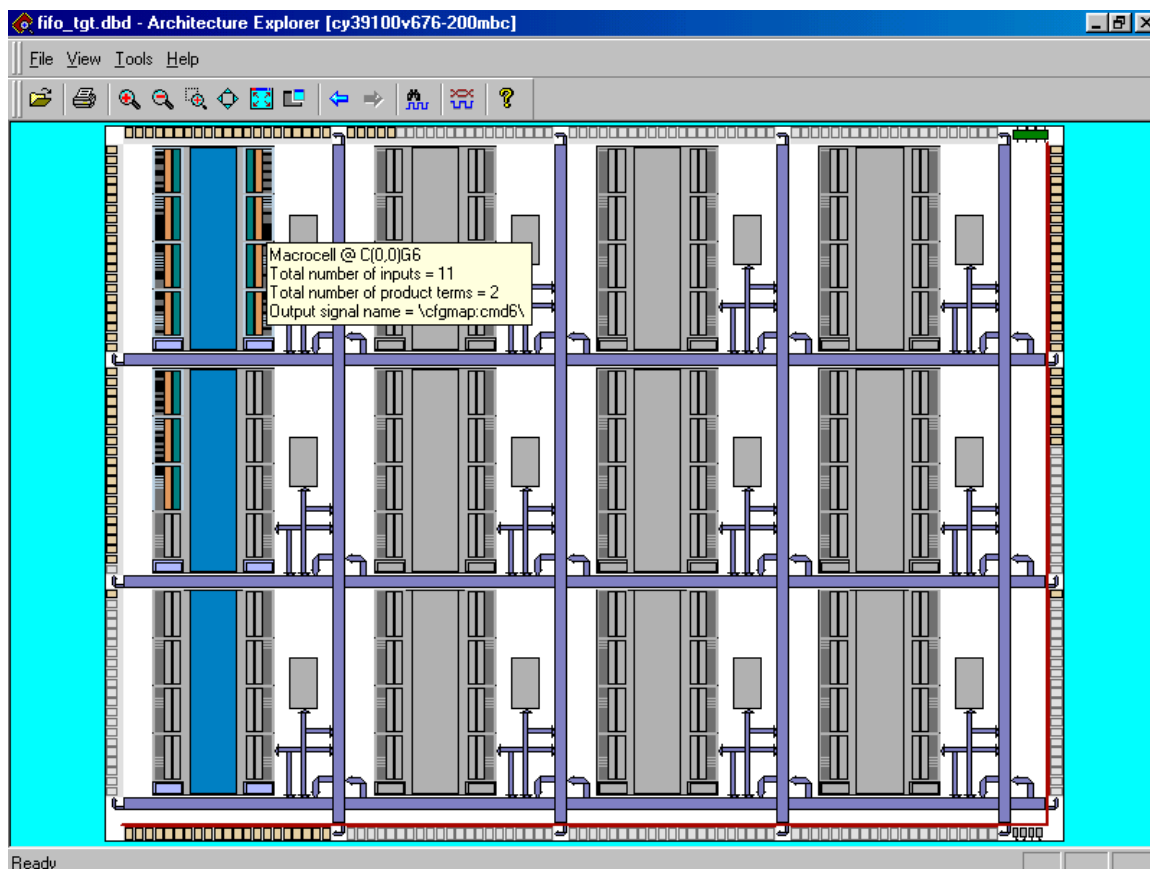

Figure 1. CY39100 in the Warp Tool's Architecture Explorer
This brings up a map of the device that was targeted for the design. This map shows utilized resources in color and unused resources in gray. The Delta39K CPLDs use a product-term-based architecture for its basic building blocks. Figure 1 shows a CY39100. This device has approximately 100,000 FPGA-equivalent gates. It implements this using the twelve clusters shown on this map. Each cluster contains eight Logic Blocks (LB), and each LB contains 16 Macrocells (MC). The LB and MC structure of this family is very much like the Ultra37000[™] CPLD family.